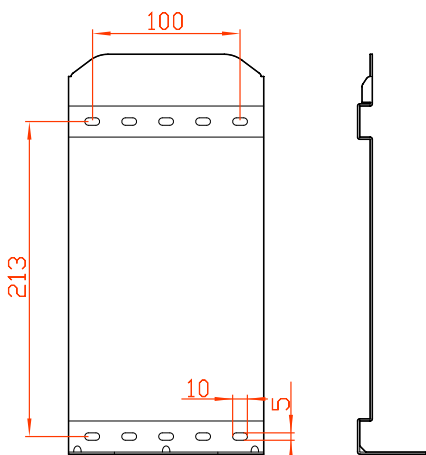
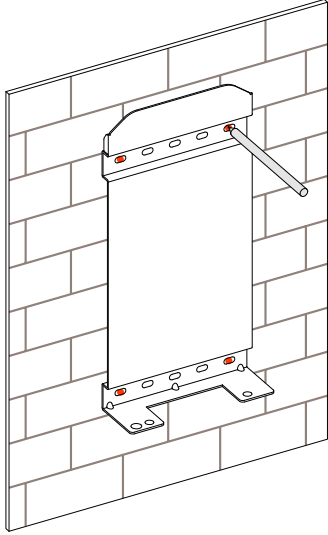

Figure3-7 Optimized installation size (unit: mm)
Figure3-8 Mark the drilling position
- Step 2 Mark the position of installation holes on the wall according to the dimensions of the fixing holes of the installation holder (as shown in Figure3-7), and drill 4 holes of  $\Phi 8.5\text{mm}$  on the wall according to marked position, as shown in Figure3-8